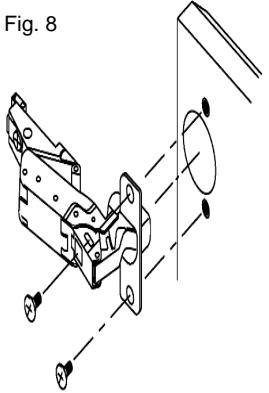

Fig. 9
4. Attach the door by inserting the free ends of the hinges into the brackets on the housing (Fig. 9).